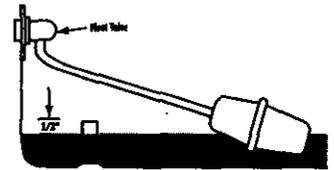

FIGURE 9
3. Adjust float valve by bending the rod (see Figure 9).